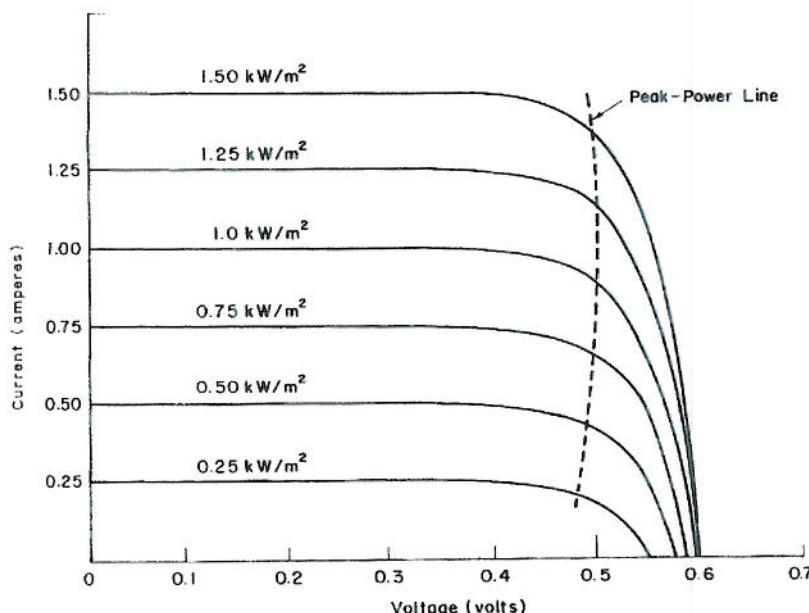

Figure 2, Output characteristic of a PV cell
- a) The output characteristic for a photovoltaic cell is shown in figure 2. Cells of this type are to be built into an array composed of a number of cells in series to form strings with a number of strings placed in parallel,